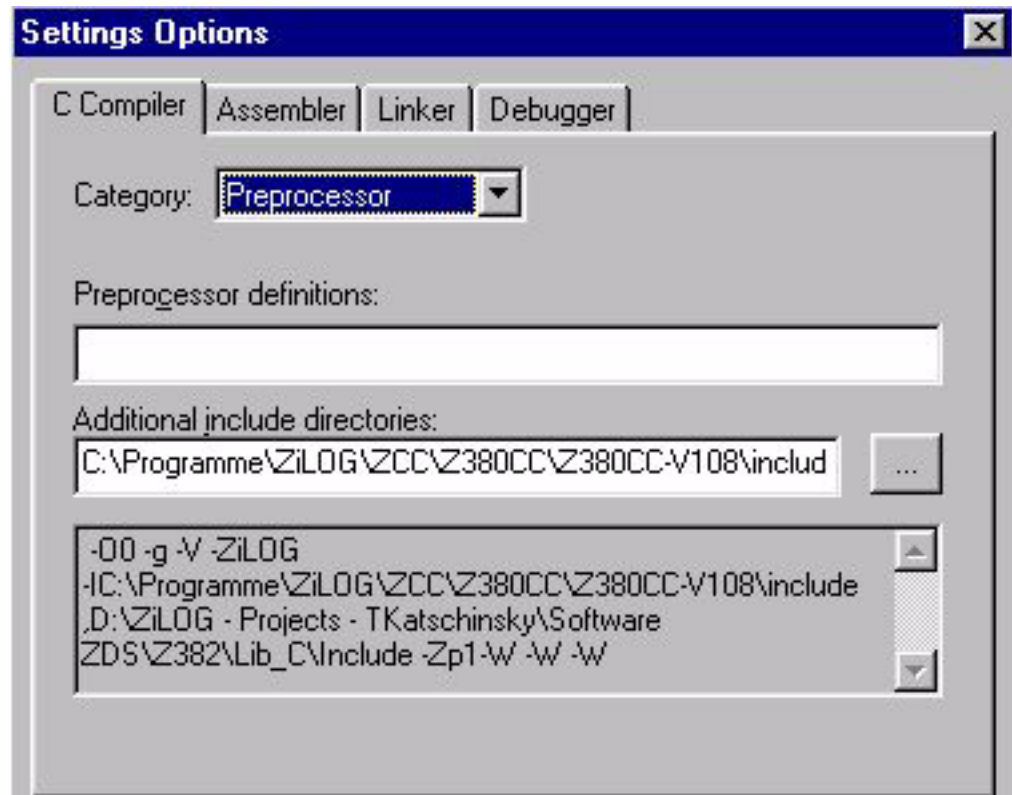

Figure 10. C-Compiler Settings–Preprocessor
6. Change the Include path of the DMA/HDLC library according to the directory in which you installed the DMA/HDLC library. When finished, the 'Preprocessor' page of the compiler settings appears similar to those in Figure 10 (except that your path is different).